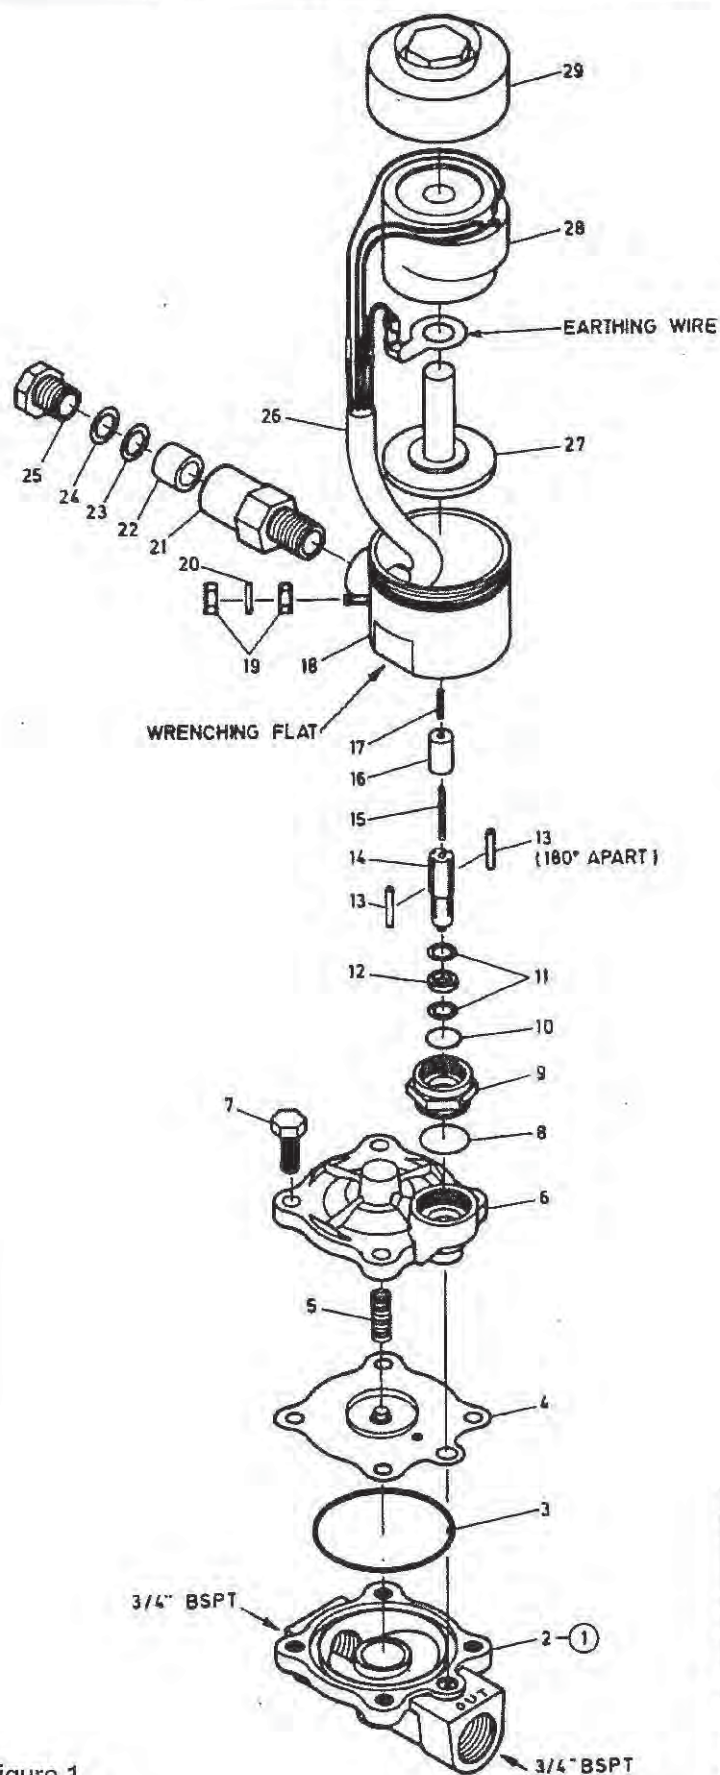

Figure 1
1. Disassemble valve in an orderly fashion. Use the exploded view for identification and placement of parts (figure 1).
- * pins (2)